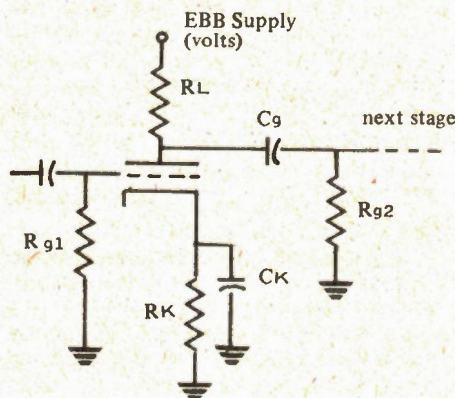

Fig. 2 RC coupled triode stage.
Fig 2 shows a real life, practical resistance-capacitance (RC), coupled triode voltage amplifier with cathode bias.